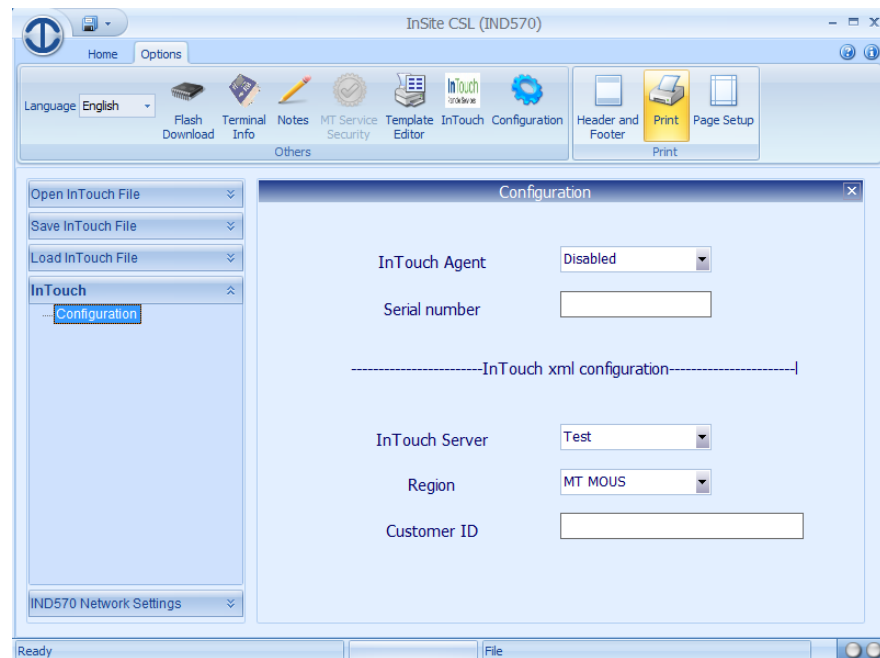
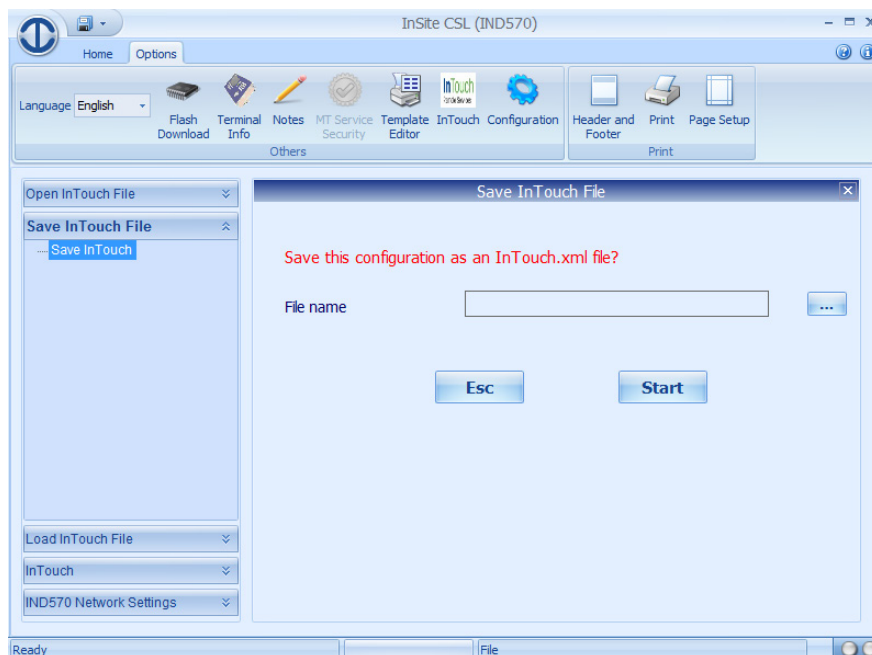

Figure 5-50: InTouch Configuration Screen
Figure 5-51: Selecting a File Name
Next, select the InTouch branch. The InTouch configuration screen provides access to the InTouch agent program inside the IND570 (Figure 5-50). These settings are not available through the terminal's front panel. The terminal must be identified by its serial number. After that, make the following settings:
1. Click on Save InTouch File (refer to the left pane of the InSite CSL screen in Figure 5-50. The screen shown in Figure 5-51 will display.